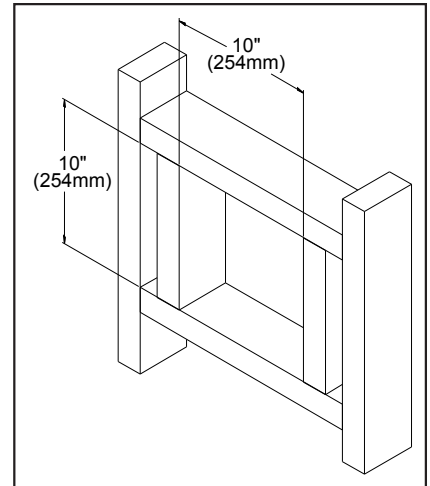

Figure 22: Wall Framing Hole for Horizontal Installation.
4. Frame the hole as shown in Figure 22.
5. Trim the wall thimble to match the wall thickness as necessary. Install the wall thimble and secure it to the inner wall frame using four (4) 1½" wood screws. If a wall is greater than 8" (203mm) in depth, the clearance above the flex must be 4³/₈" (111mm)
STEP 3. With the pipe attached to the stove in the correct location, mark the wall for a 10" (25.4 cm) x 10" (25.4 cm) square hole (refer to Figure 22). The center of the square hole should match the center line of the horizontal pipe. Cut and frame the 10" (25.4 cm) x 10" (25.4 cm) hole in the exterior wall where the vent will be terminated. Refer to Figure 15. If the wall being penetrated is constructed of non-combustible material i.e. masonry or concrete, a 7 inches (17.8 cm) hole is acceptable.